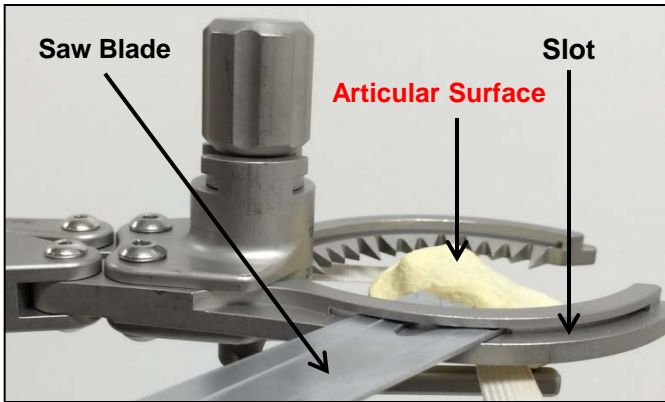

Figure 2. Grasp and resect patella with oscillating saw.
- Grasp patella in jaws of resection guide with anterior surface of patella resting against the foot of the instrument (Figure 2).
- Resect patella with an oscillating saw using slot in jaws of the resection guide (Figure 2).